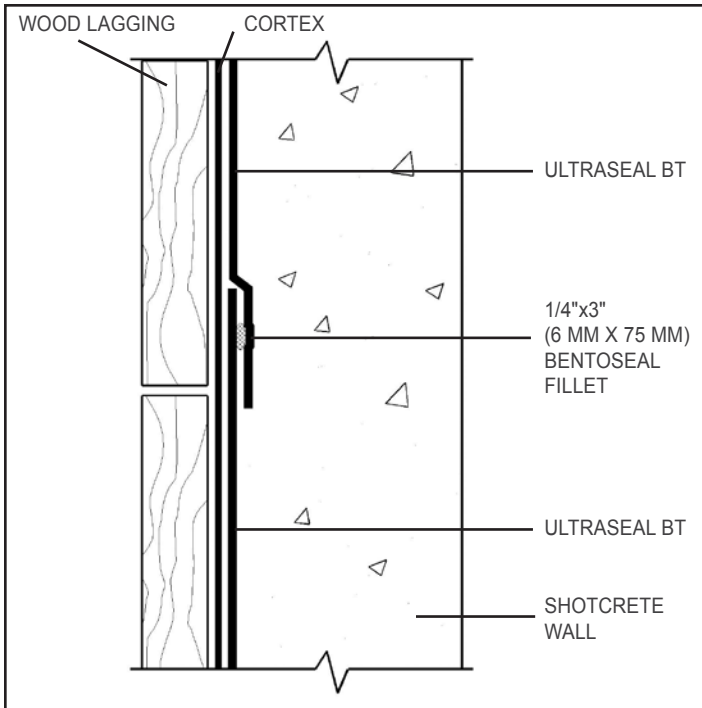

**Figure H4-1: CAST-IN-PLACE STRUCTURAL COLUMNS AND PILASTERS**
**Cast-in-Place Columns/Pilasters:** As it is extremely difficult to place and consolidate dry-mix shotcrete behind heavy or closely placed steel reinforcement typical within integrated or attached columns and pilasters, CETCO HydroShield eligibility requires that these structural components be cast-in-place (Figure H4-1). Sequence integrated cast columns and pilasters prior to spraying the connecting or adjoining shotcrete walls in order to minimize the impact of overspray and maintain the cleanest surface possible to pour against in these locations. Sequencing in this manner will also create a much more stable/defined surface to spray the shotcrete against when construction adjacent walls. If the shotcrete walls are constructed prior to the cast-in-place columns, use removable forming and not stay-in-place forming. Install Ultraseal BT sheet to shoring wall (APC side facing installer) with the bottom edge overlapping top edge of the Ultraseal BT corner transition work a minimum 6" (150 mm). Secure sheet edges to shoring with both washer-head fasteners placed maximum 24" (600 mm) on center and pneumatic staples placed 6" (150 mm) on center within 1" (25 mm) of sheet edge.